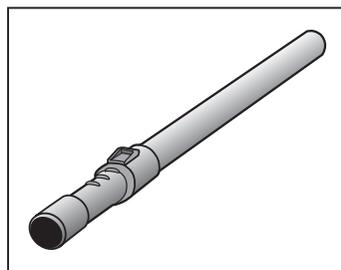

Fig. 10
**TUBO TELESCÓPICO (Fig. 10)**